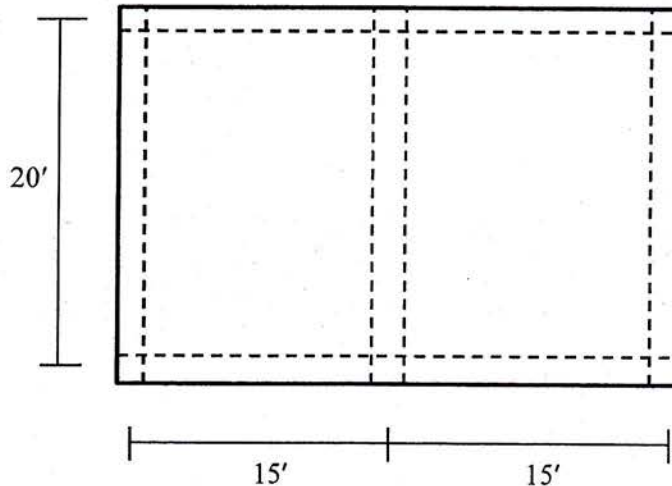

Figure 1
1. (a) The slab system shown in **Figure 1** carries service live load of 60psf and dead load of 40 psf in addition to its own weight. It is supported on all sides by beams.